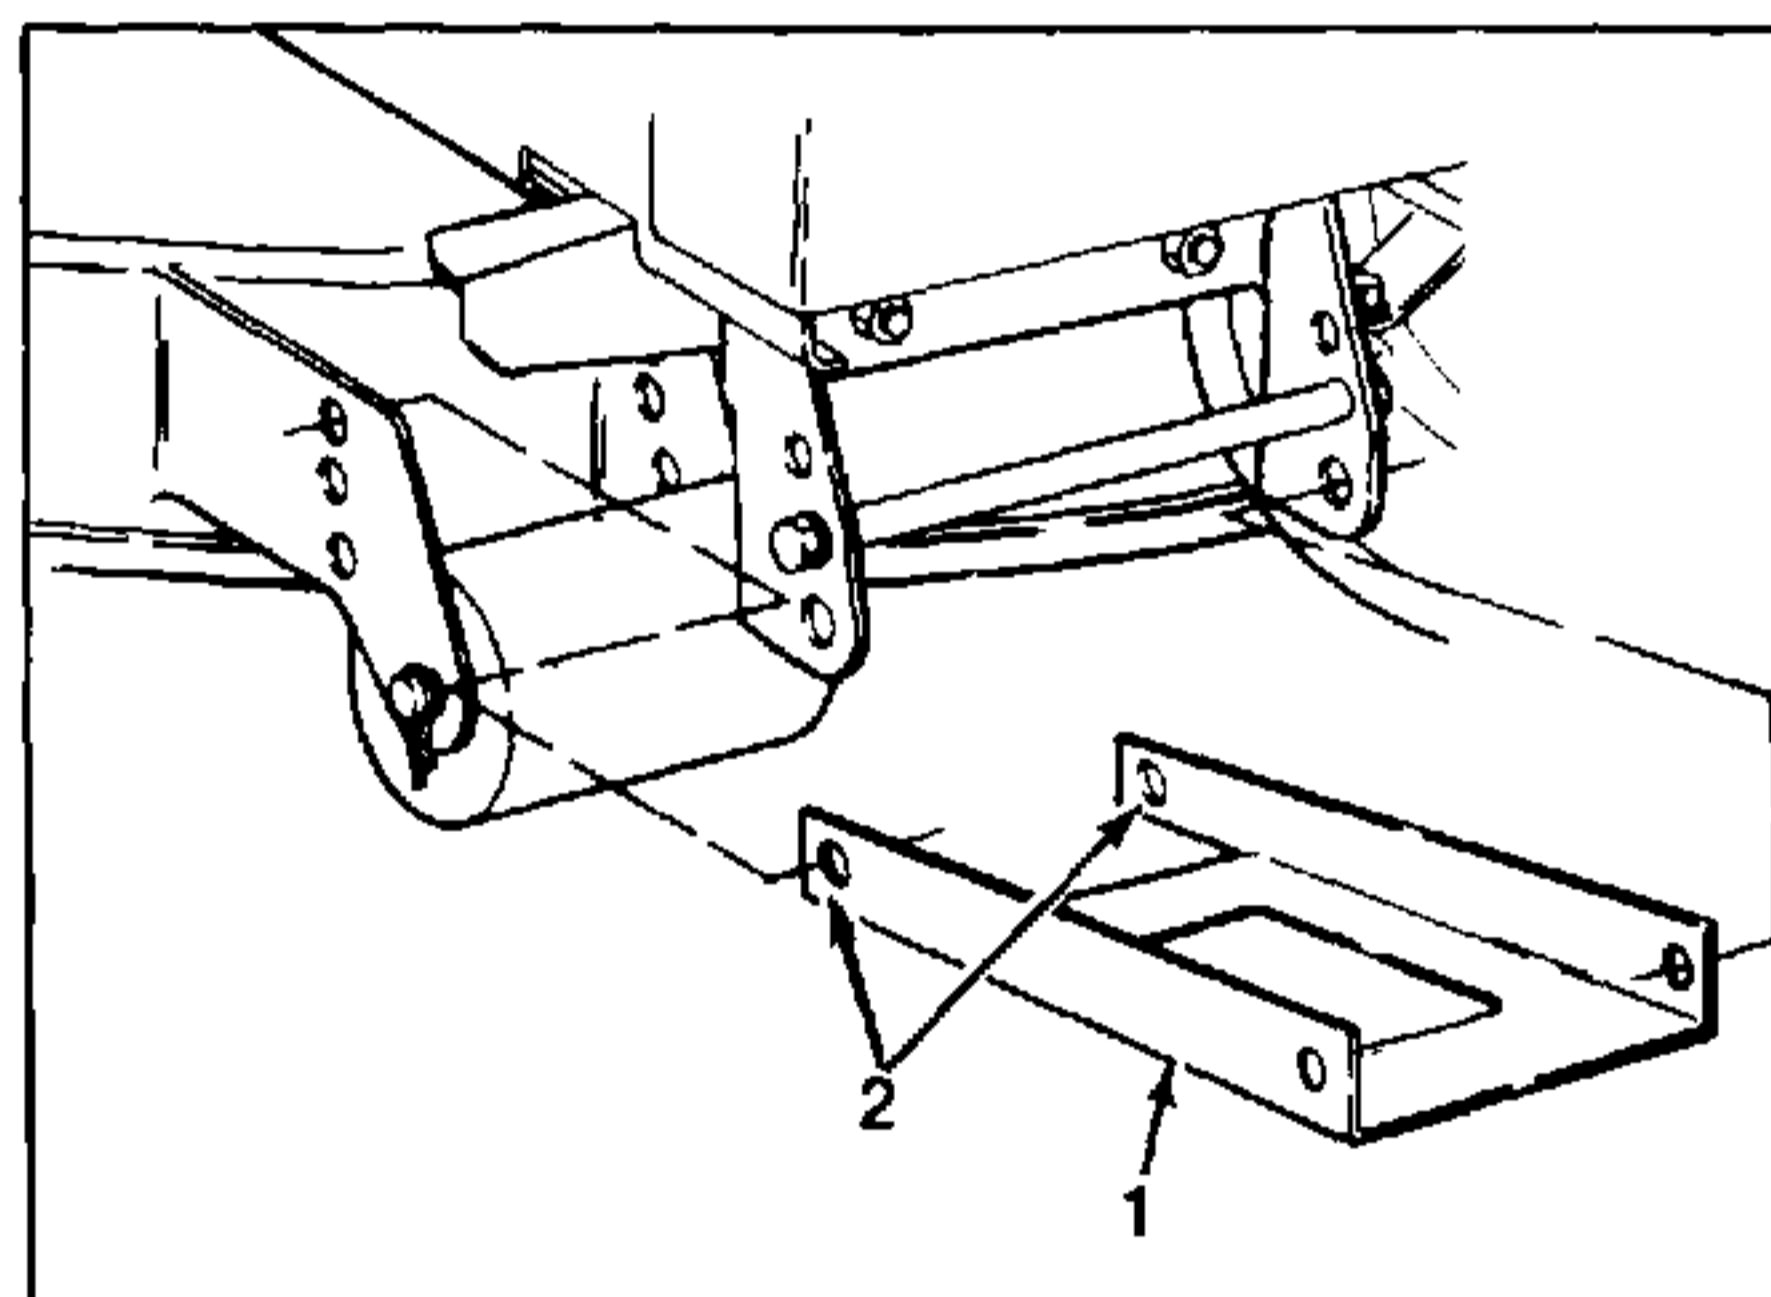

FIGURE 13.
10. Refer to figure 13 to determine the proper positioning of the front hanger assembly in relation to the tractor and deck. Note that when the front hanger